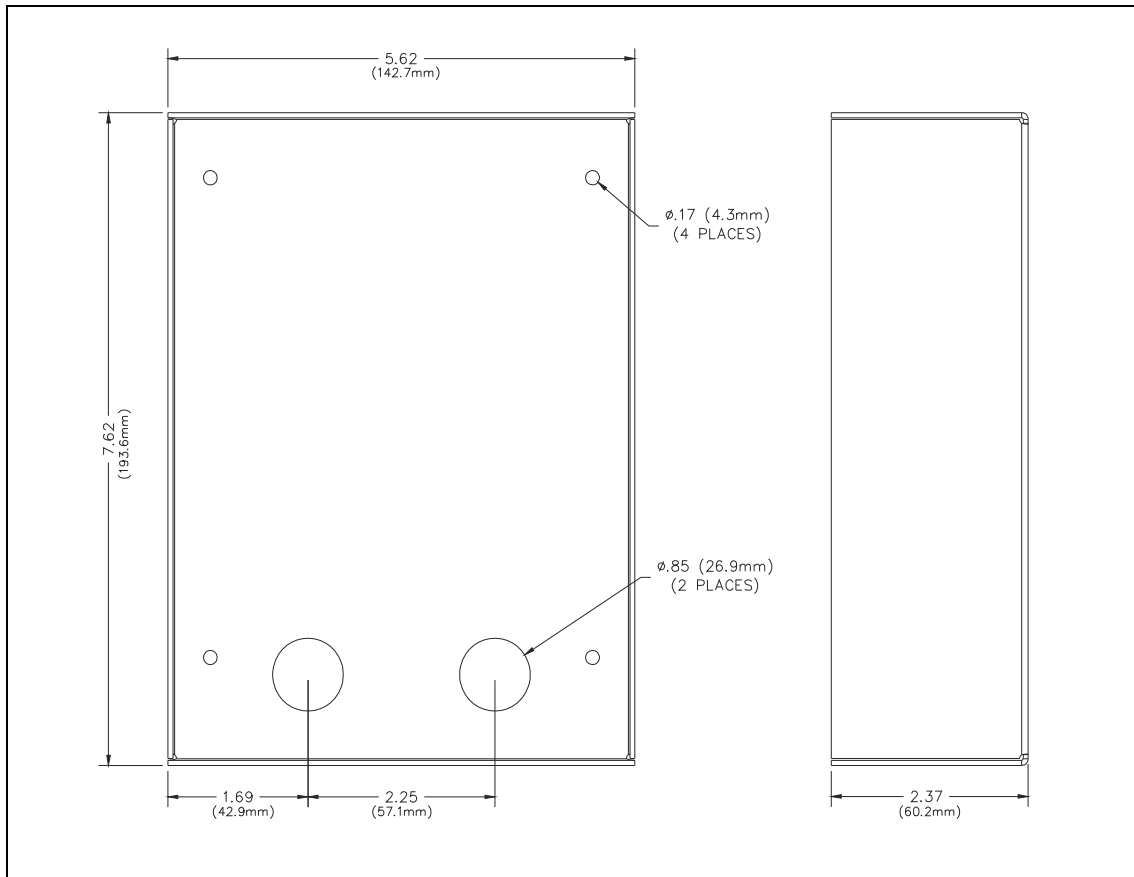

Figure 16. Models 276-702BH/-702BHAC Dust Cover Detail
2. Remove the tapered plug(s) from the cable entry holes and feed all cabling into the dust cover (see Figure 16).